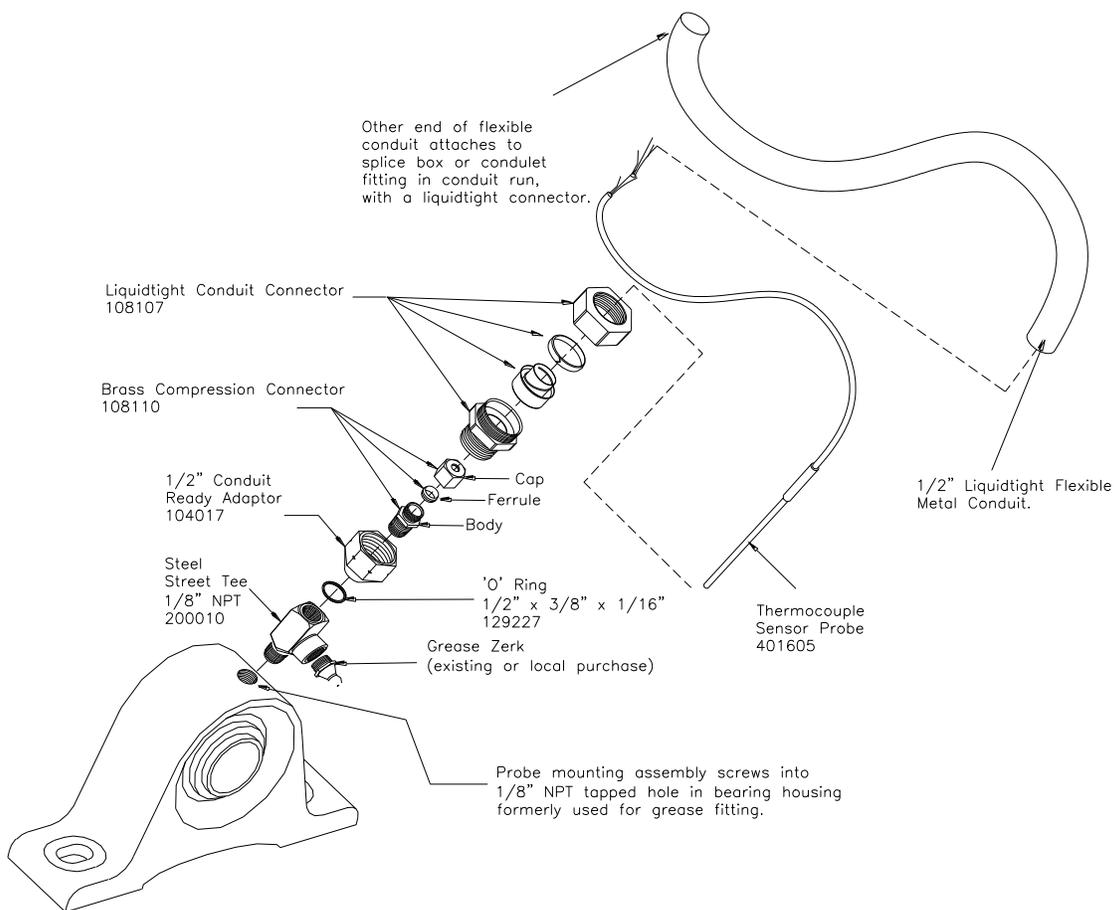

Figure 21. Bearing Probe Sensor and Fittings
4.6.2.1.1. Remove grease fitting (Zerk) from bearing housing. Most bearing housings are drilled and tapped for 1/8" NPT grease fittings (Zerks). If it is tapped for 1/8" NPT, proceed by inserting male threaded end of 1/8" NPT Steel Street Tee (200010) into the hole that has been vacated by the grease Zerk. Be careful not to over tighten. Screw existing Zerk into the side opening of the Tee and aim it so that it can be greased easily. (See Figure 21).